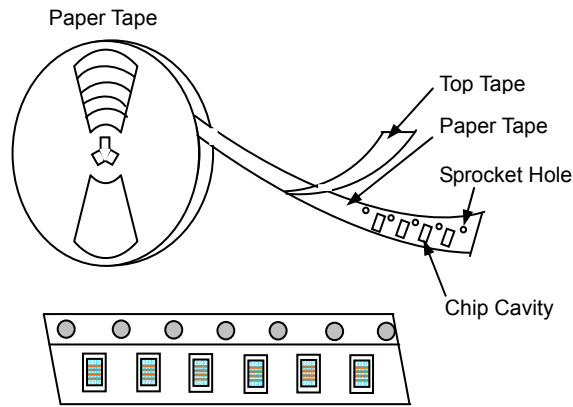

Fig. 7.1-1
i. Tape carrier packaging are specified in attached figure **Fig.7.1-1~4**